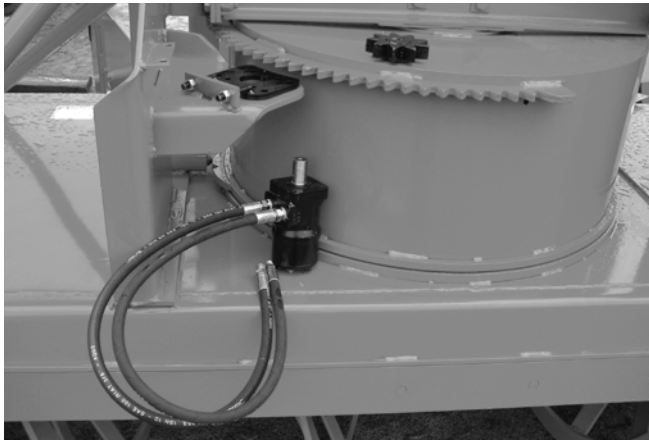

Figure 19
- 2) Install hoses on the hydraulic motor as shown (Fig. 19) using teflon tape for a leak proof connection.